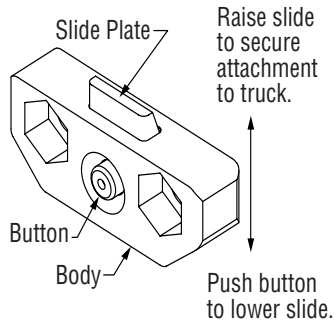

Figure 4-2, Quick Hook
4. If the attachment is equipped with quick hooks, simply depress the button on the back of the hooks, allowing the slide plate to drop. Removal of the quick hooks is NOT recommended. (Figure 4-2)